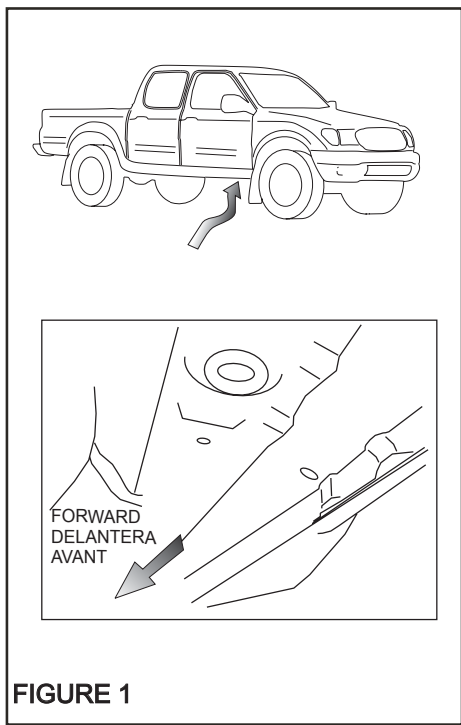

FIGURE 1
**STEP 2.** Install front brackets as shown. Hand tighten (See Figure 1 and 2).